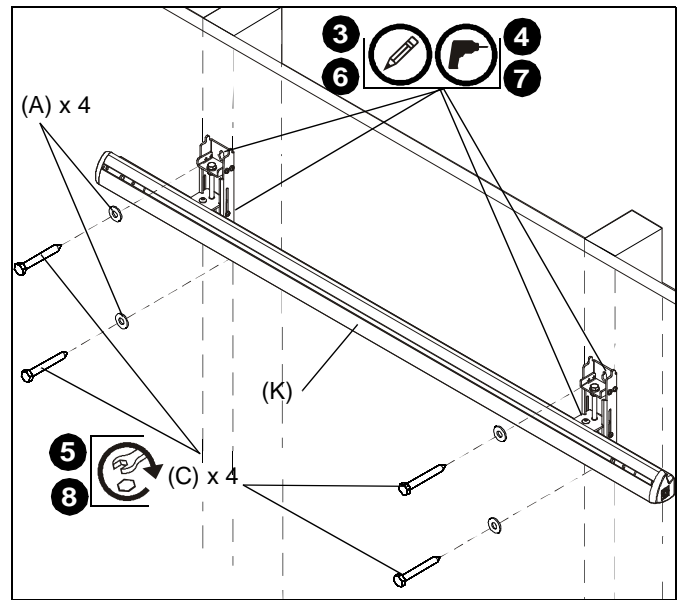

Figure 5
3. Using a level, mark the wall on each stud above existing chalkboard through **top** mounting hole in the wall assembly (K). (See Figure 5)
4. Drill one 1/8" pilot hole in each stud. (See Figure 5)
5. Use two 1/4-20 x 2-1/2" lag bolts (C) and two 1/4" flat washers (A) to attach wall assembly (K) to wall. (See Figure 5)
6. Mark the wall through the **lower** mounting hole in the wall assembly (K). (See Figure 5)
7. Drill one 1/8" pilot hole in each stud through lower mounting hole in wall assembly (K). (See Figure 5)
8. Use two 1/4-20 x 2-1/2" lag bolts (C) and two 1/4" flat washers (A) to complete attaching wall assembly (K) to wall. (See Figure 5)